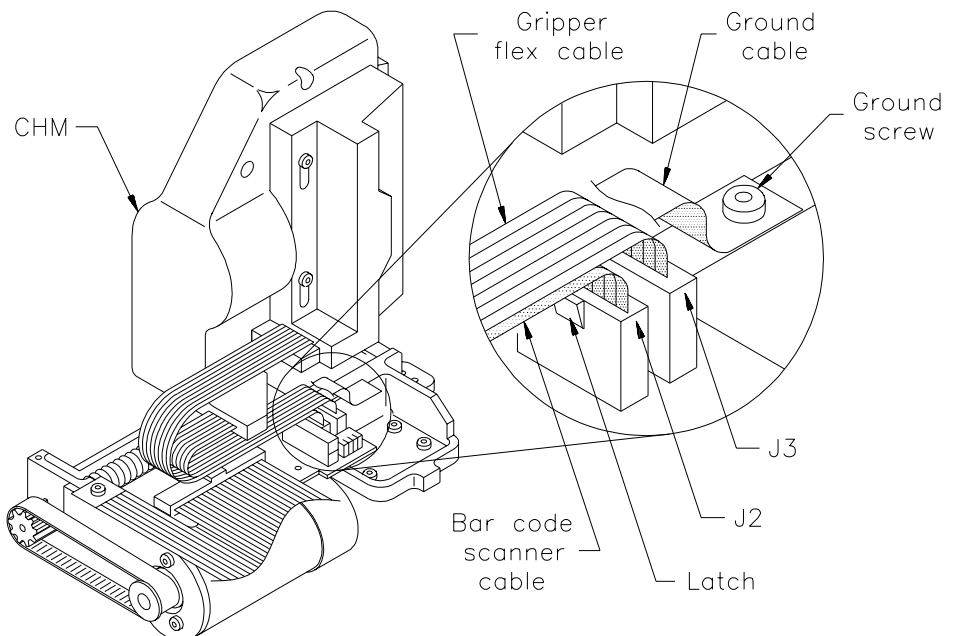

Figure 3 Disconnecting the cables
3. Disconnect the cables (see Figure 3).